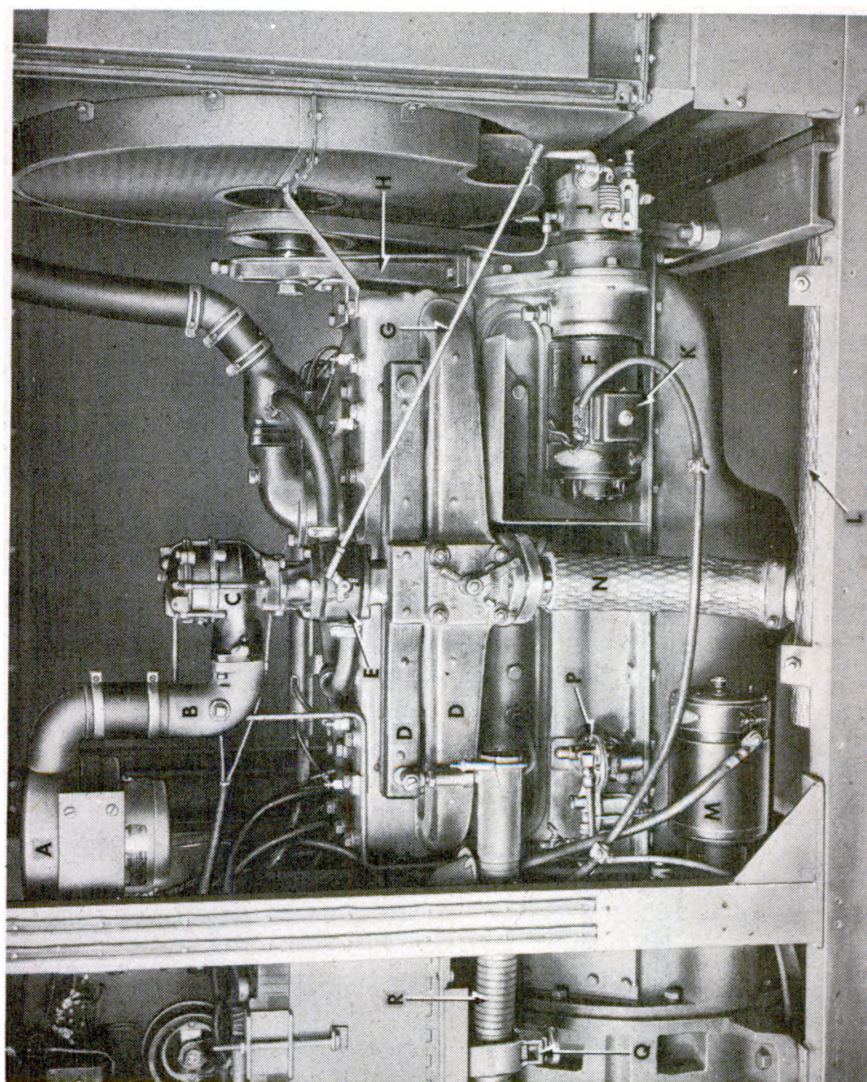

Figure 15 — Engine — Right Side
(2) **FUEL PUMP.** The fuel pump is on the right side of the engine, back of the exhaust pipe (fig. 15).
(3) **MANIFOLD.** The combination exhaust and intake manifold is on the right side of the engine block (fig. 15).
(4) **MUFFLER.** The muffler is strapped to the frame at the right of the engine (fig. 15).
(7) **THROTTLE BODY.** The throttle body is mounted on the intake section of the manifold at right of engine (fig. 15).
(8) **CARBURETOR.** The carburetor is mounted on the throttle body at right of engine (fig. 15).
(10) **BATTERY-CHARGING GENERATOR.** The battery-charging generator is located under the manifold at the right side of engine (fig. 15).
(11) **GOVERNOR.** The governor is at the right side of the engine, in front of the battery-charging generator (fig. 15).